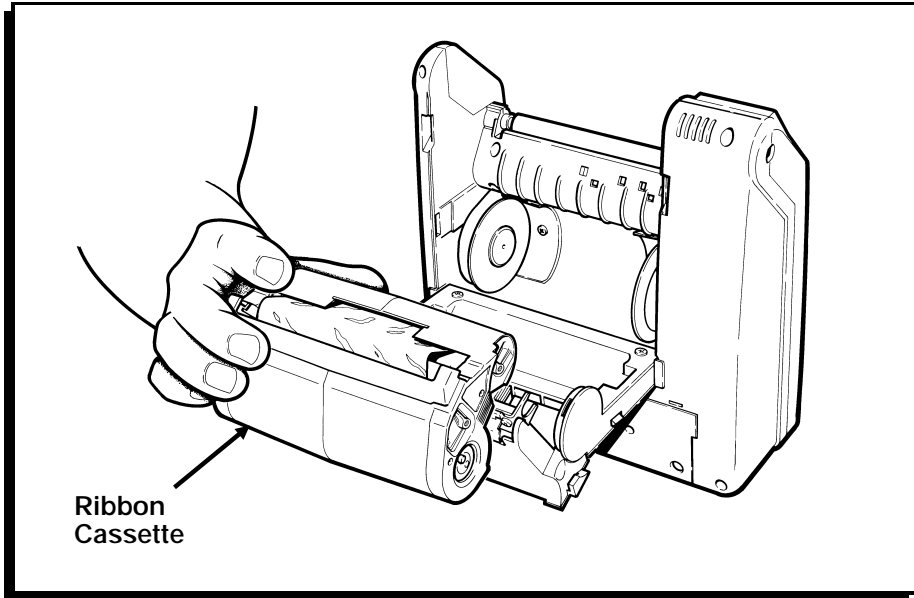

Figure 35
1. Open the printer and remove the ribbon cassette. (Figure 35.)